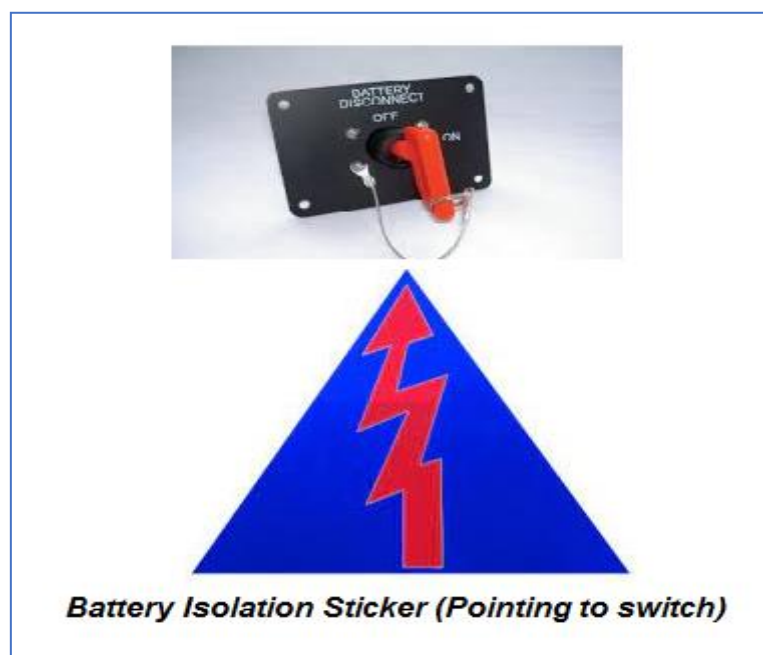

Figure 21
22.4 A direct manual cut-off switch wired to isolate the ground circuit will be installed on the right rear shelf or rear firewall within 10" of the corner formed by the rear deck and rear firewall. Switch will be located over the right shoulder of the driver. The emergency electrical cut off switch location must be highlighted by a BLUE battery isolation sticker (*Figure 21*) and clearly marked "ON / OFF"
- 28.13** Battery Isolation switch and sticker that points to the isolation switch as per Rule 22.4 (*Figure 21*).